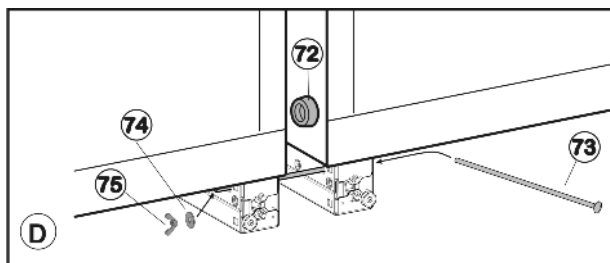

Fig. 46
- Insert long carriage bolt Fig. 46 (73).
- Push washer Fig. 46 (74) and nut Fig. 46 (75) onto the screw. Tighten nut until the spacer Fig. 46 (72) is touching the opposite side wall.